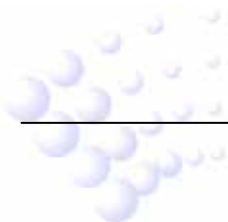

Fig. 1 Appearance
1. Appearance of the detector is shown in Fig. 1.